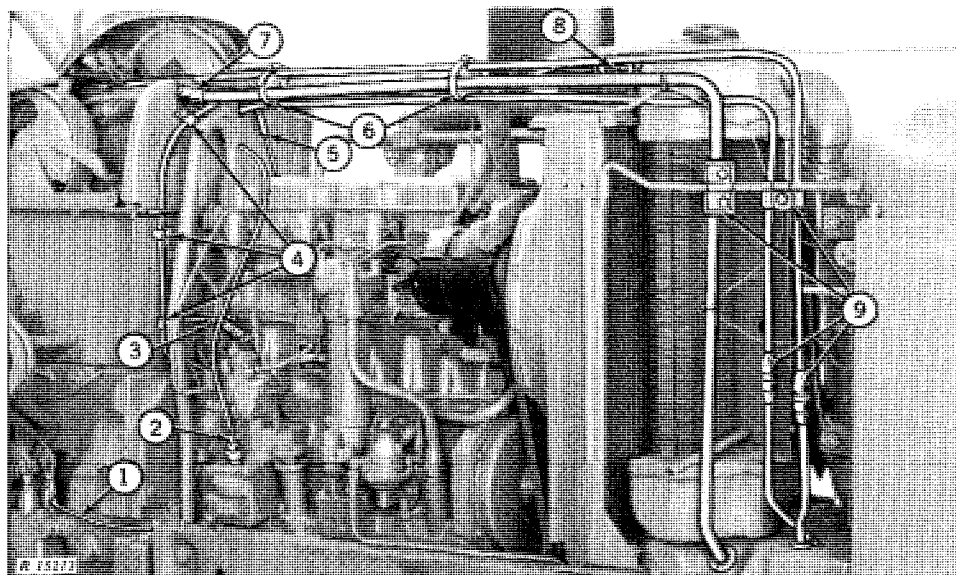

Fig. 5—Separation Procedures on Right-Hand Side
1. Disconnect hydraulic pump oil seal drain tube (Fig. 5).